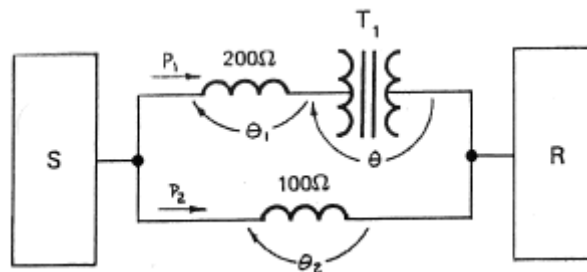

Figure: 7
3. In figure 7, two transmission lines having reactance per phase of 100 ohms and 200 ohms are connected in parallel. A phase shift transformer T1 is introduced in to the 200 ohm line, close to the receiver, in order that the real power be divided equally between the two lines. If the sender and receiver voltages are both 100kV_{LL} calculate the maximum real power delivered and the phased angle needed for the phase shift transformer.